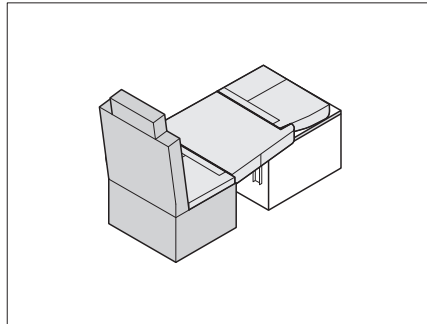

Fig. 229 Positioning the seat cushions
- Place the seat and additional cushion onto the lowered table as illustrated in Fig. 229.